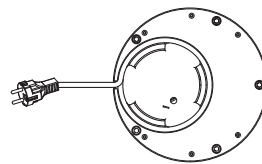

Fig. 18
- Re-wind the power cable manually into its housing without pulling it excessively, so that it forms multiple coils. (fig. 18)